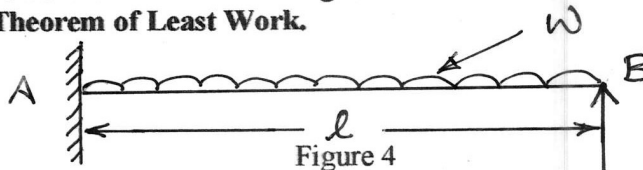

Figure 4
- e) A propped cantilever is shown in Figure 4. Calculate the reaction at point B using Theorem of Least Work. 05